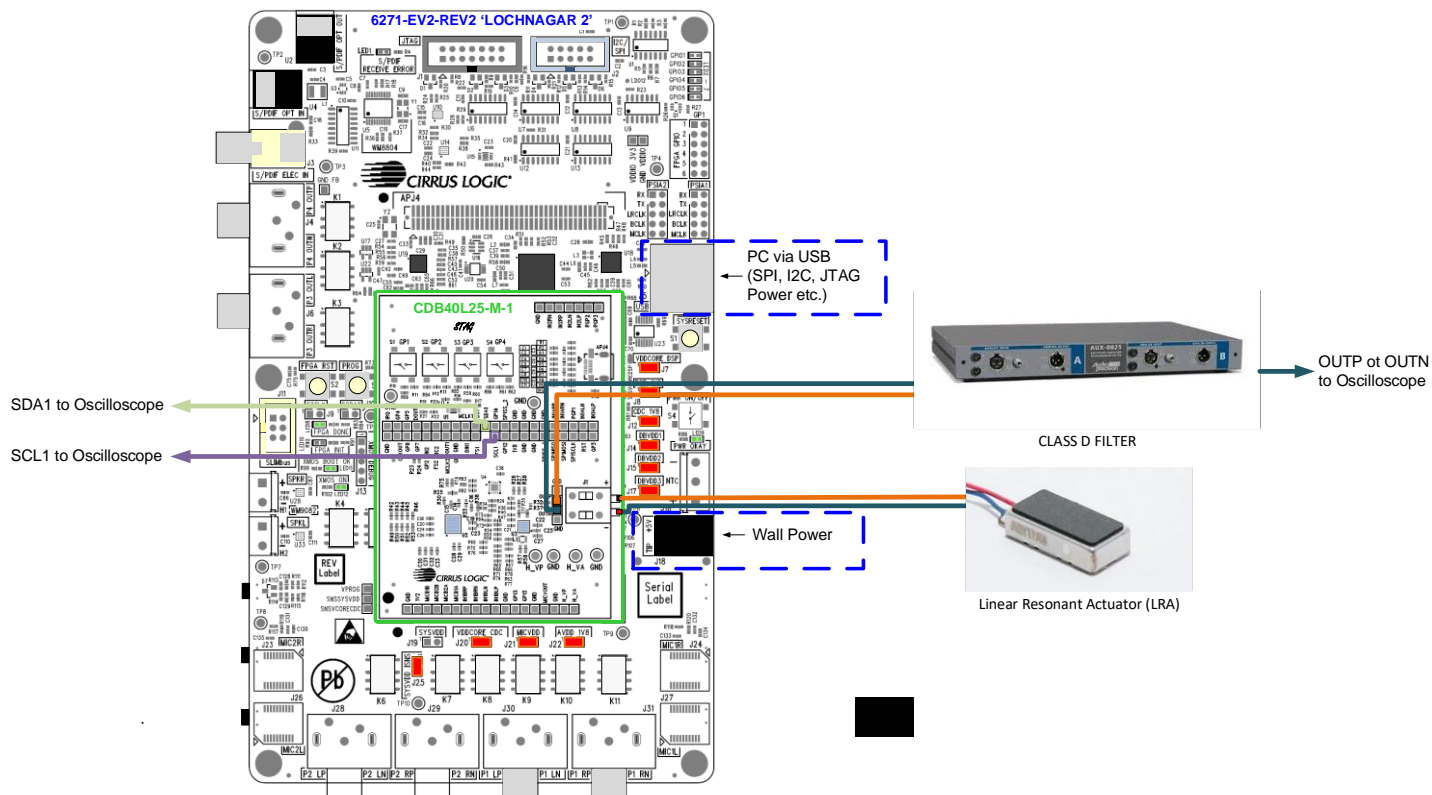

Figure 1: Hardware Set-up
The hardware set-up for i2c streaming demo is Figure 1. The mini-board mounts on top of the Lochnagar 2 Applications Platform Main Board through three keyed connectors. The Lochnagar 2 provides a USB connection to the user's PC.
1. Connect an external 5V 5A DC supply to the Lochnagar 2 Wall Power connector J18 highlighted blue in Figure 1.